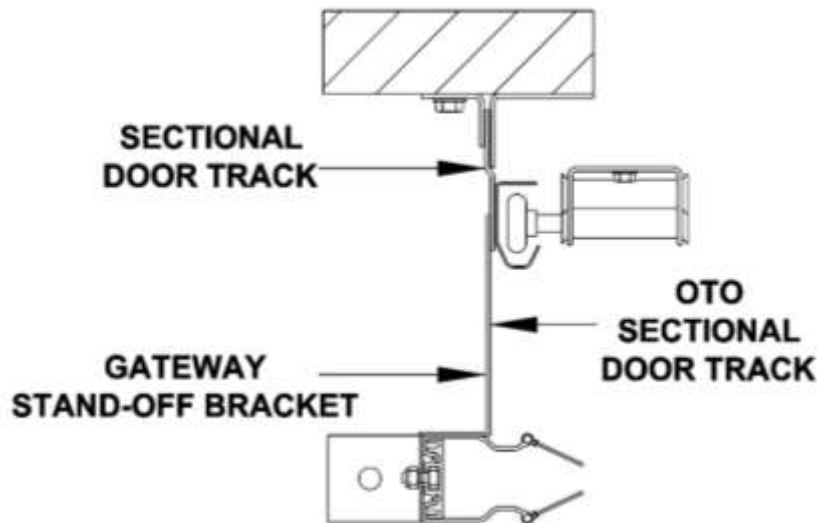
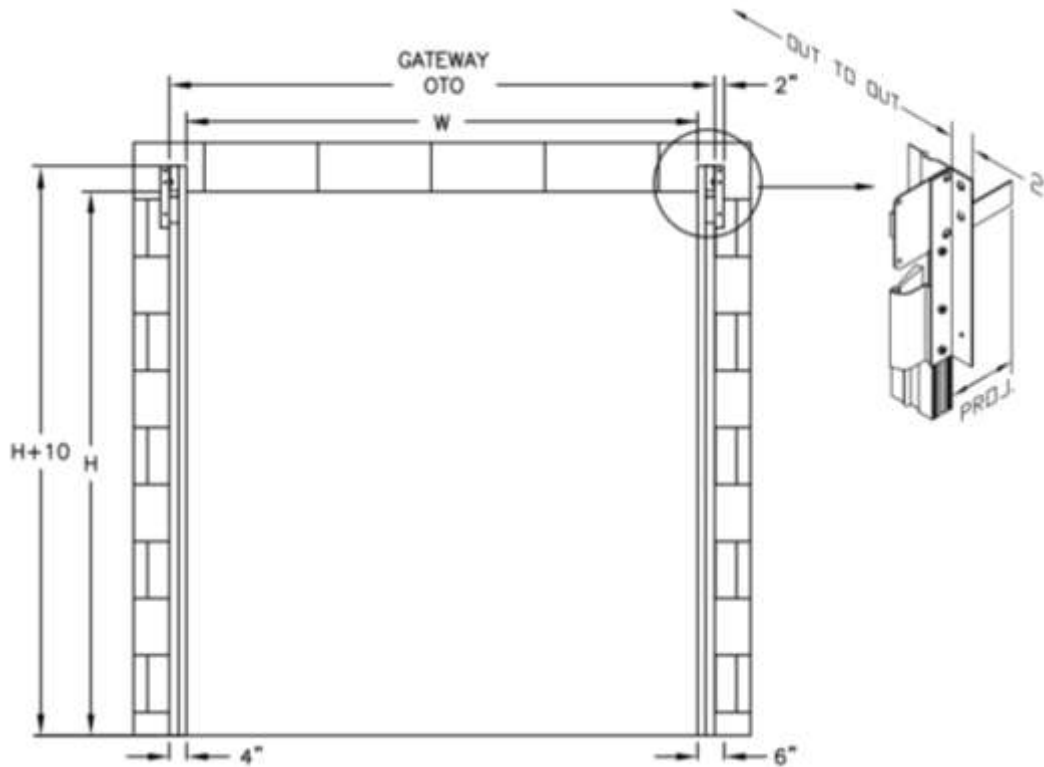

FIGURE 1
FIGURE 2
3. The stand-off brackets will attach directly to the existing sectional door tracks. You can attach the stand-off bracket to the track or to the reverse angle of the track. (See Fig 1.) When you attach the brackets to the sectional track the Gateway Door tracks should equal the Gateway Door Track OTO documented on the front page. (See Fig 2.)